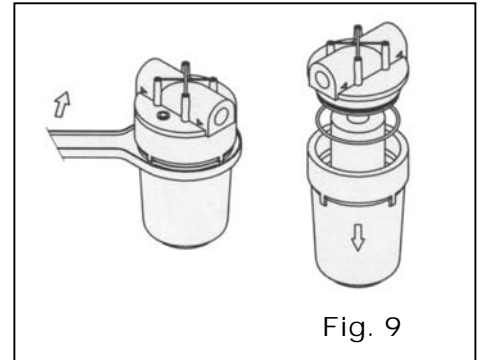

Fig. 9
73. REMPLACEMENT DE LA CARTOUCHE DE FILTRE (Fig. 9)